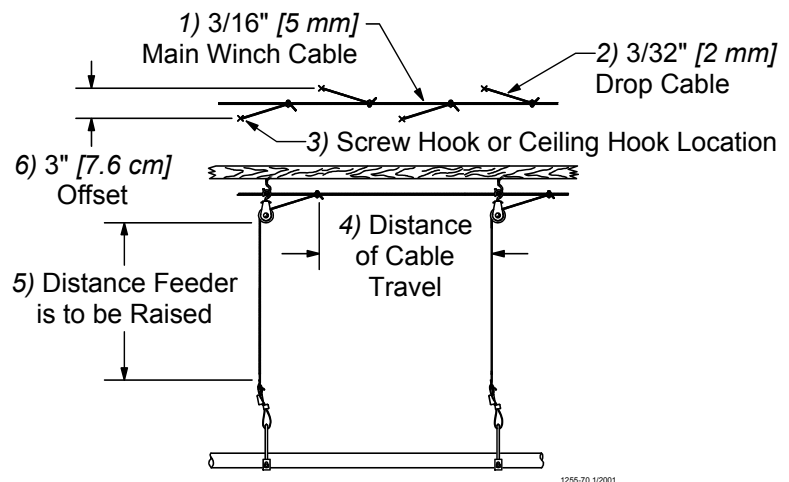

**Figure 11. Power Winch Drum Rotation**
5. Turn the winch drum one full revolution. Guide the cable against the flange at the bottom of the winch drum. The cable must not wrap over itself on the drum, but should be wrapped as close as possible to each previous wrap. See **Figure 11**.